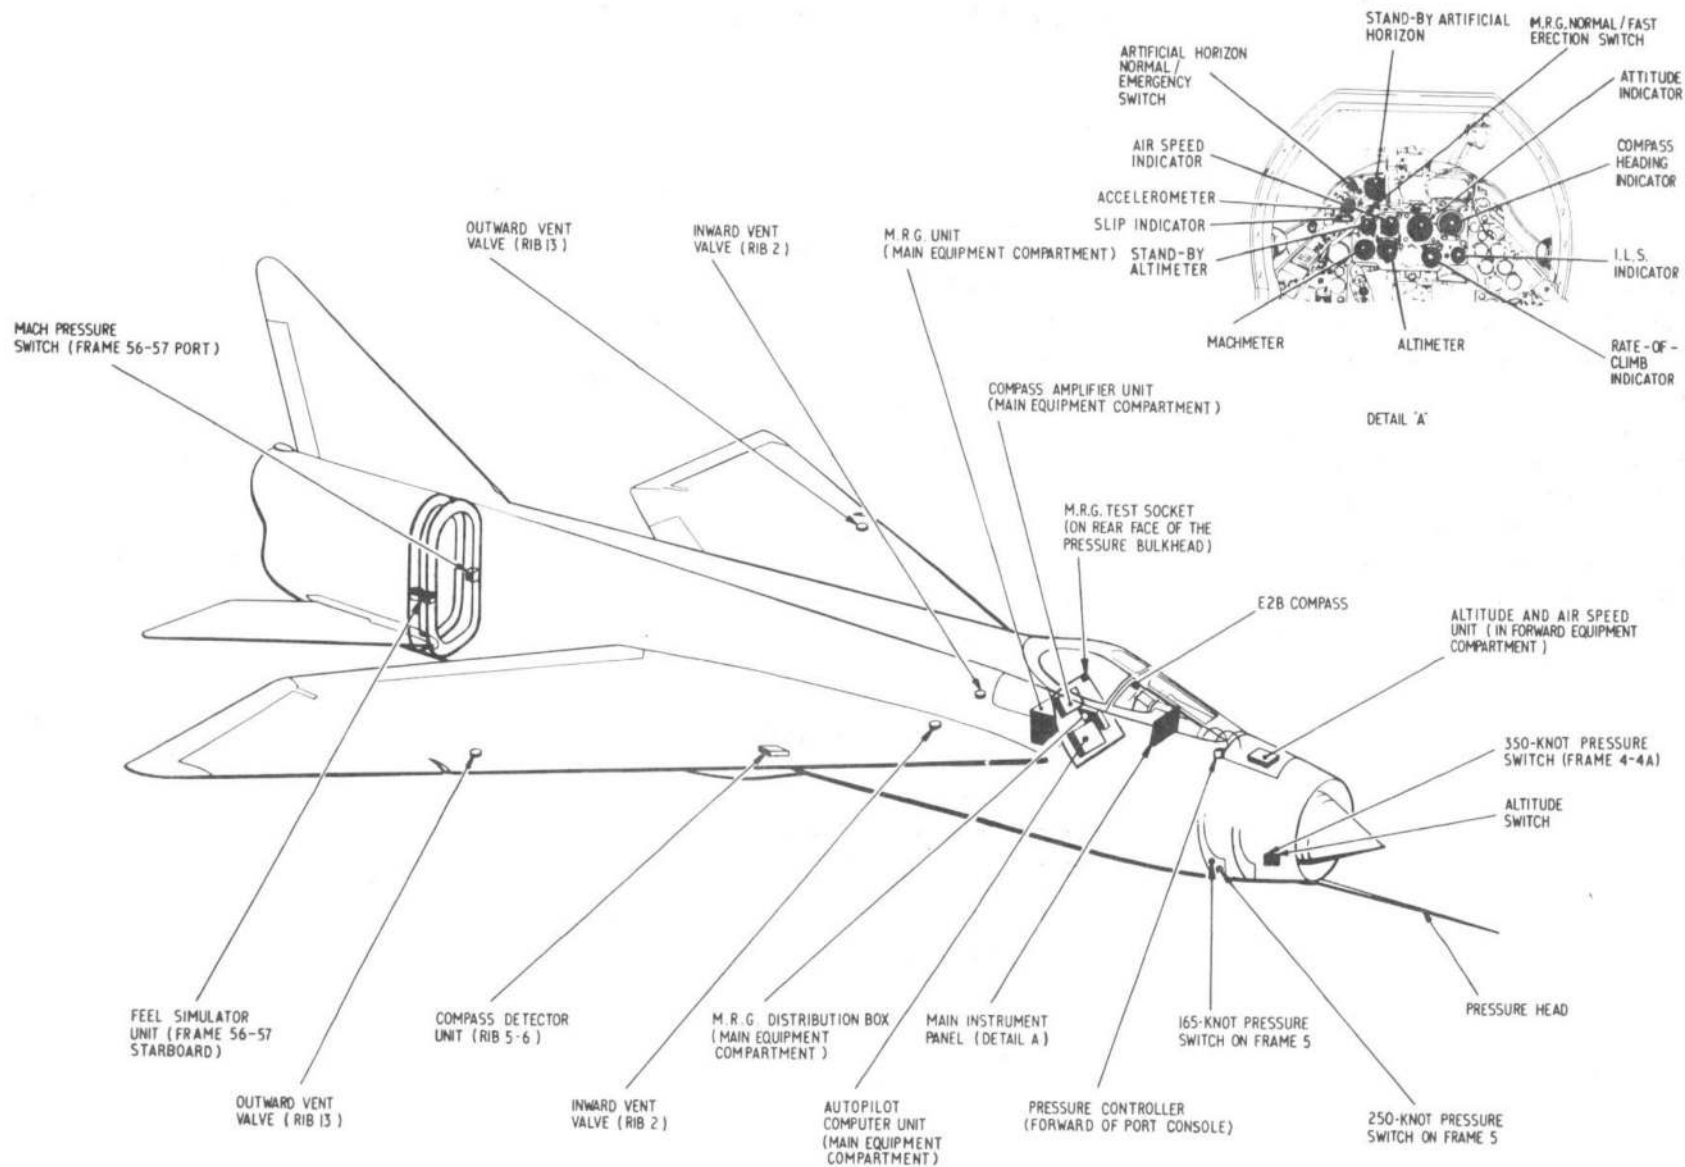

FIG. 1. FLIGHT INSTRUMENT DETAILS
7. Facilities for ground testing the system are provided by a test socket labelled RG3A-M.R.G. TEST, mounted on a panel on the aft face of the pressure bulkhead at the port side of the fuselage (fig.1).